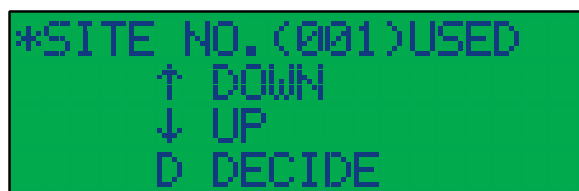
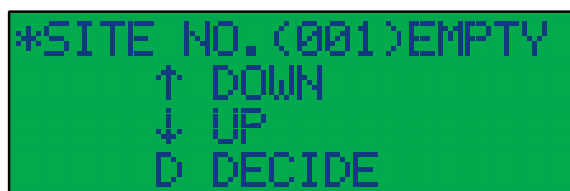

Fig.7.1-1 Example of Display for USED
Fig.7.1-2 Example of Display for EMPTY
- When the data was recorded in SITE, it will display as USED shown in Fig.7.1-1, while the data was not recorded in SITE, it will display as EMPTY shown in Fig.7.1-2.